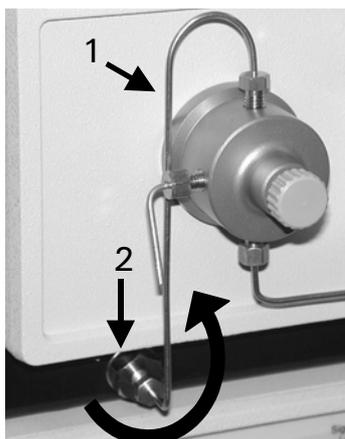

FIGURE 3-14. Tubing - High Pressure Inline Filter
- a) Remove the capillary (item 1, FIGURE 3-14) between the purge valve and the filter unit.
- b) Use the socket driver (P/N 160073) or a wrench (11 mm) to remove the filter holder (item 2, FIGURE 3-14)